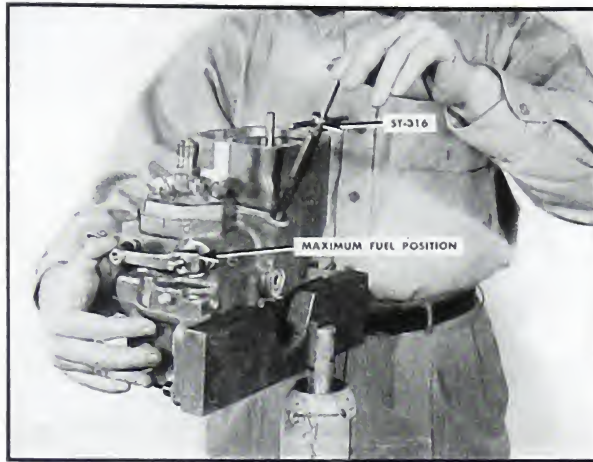

Fig. 5-356. Set maximum fuel
2. While holding throttle control down as far as it will go in maximum-fuel position, screw in the maximum fuel adjustment screw until it just starts to move the hand throttle lever. Turn one-half turn more, and lock. Fig. 5-356. This maximum fuel setting is approximately 2% over required delivery. Further adjustment is made on the fuel pump test stand.